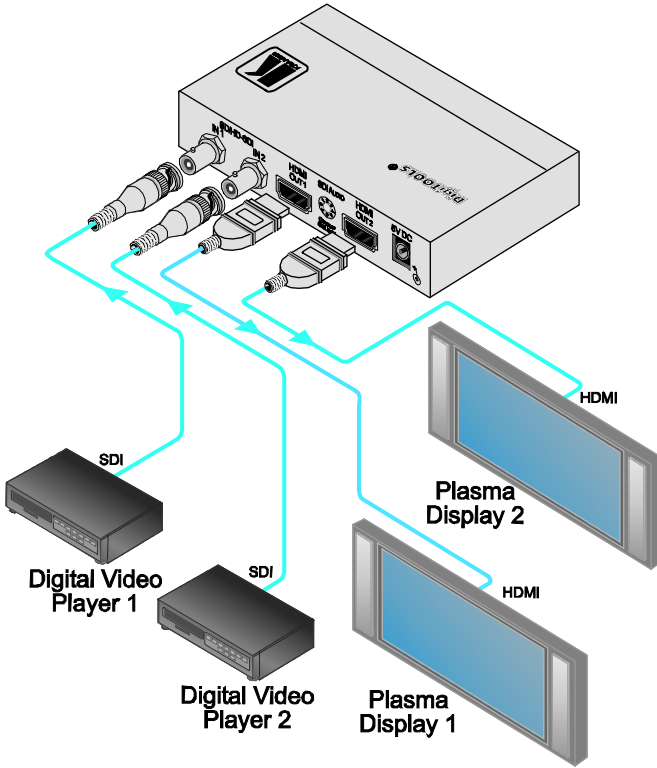

Figure 2: Connecting the FC-322 SD/HD-SDI to HDMI Converter/Switcher/DA
To connect the **FC-322**, as the example in *Figure 2* illustrates, do the following1:
6. Connect the 5V DC power adapter to the power socket and connect the adapter to the mains electricity (not illustrated in *Figure 2*).